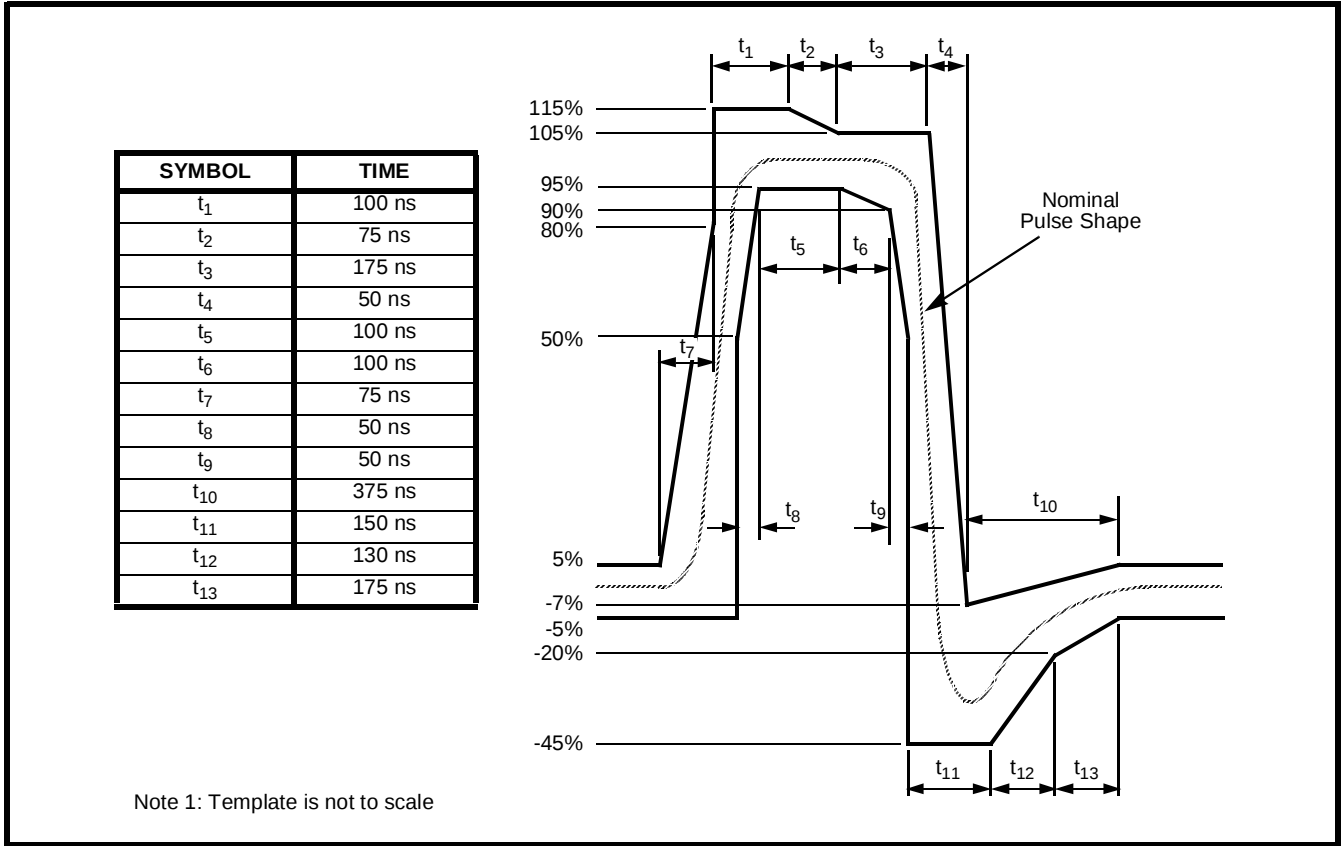
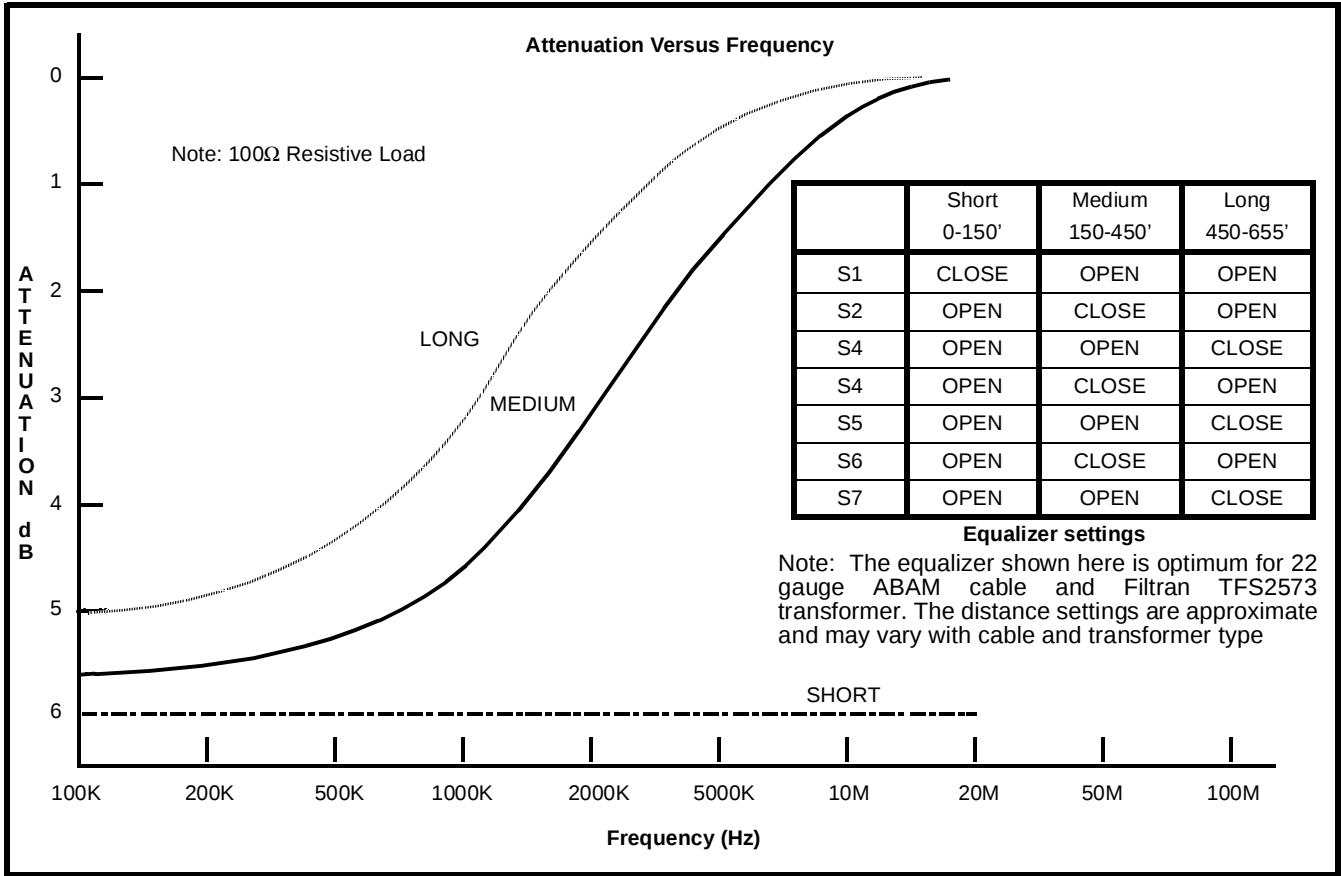

Figure 3 - DSX-1 Line Pulse Template (Reference: ANSI T1.102-1987)
Figure 4 - Typical Frequency Response of the Equalizers
The MH89761 is designed to accept output from the secondary of the T1 transmit transformer and condition it for transmission over twisted pair. The seven switches (S1 to S7) permit configuration of the equalizer for different line lengths. The pulse amplitude at the secondary of TR1 is approximately 6V. Passing this signal through the equalizer with zero line length setting on the switches will result in attenuation of the pulse by 6dB. This will ensure that the pulse fits in the template shown in Figure 3 and meets DSX-1^① requirements. By switching in different C and L components, the frequency and phase response of the equalizer can be altered as shown in Figures 4 and 5. Note that the circuit attenuates lower frequencies more than higher frequencies. Consequently, when a pulse is passed through the equalizer, lower frequency components in the signal are attenuated more than higher frequency components. The intention is to compensate for the attenuation properties of twisted pair cable, which tends to attenuate higher frequencies more than lower frequencies. The net result is that a pre-equalized pulse will meet DSX pulse requirements after traversing a specific length of cable.
The cable length indicated along with the equalizer switch settings in Figure 4 are specific to 22 awg ABAM cable interfaced to an MH89760B equipped with a Filtran^② TFS2573 transformer. Different equalizer settings may be more appropriate for other cable and transformer types. Figure 6 shows the generic switch settings for different levels of equalization.
① Reference: ANSI T1.102 - 1987, Section 2.2
② Manufacturer: Filtran Ltd.